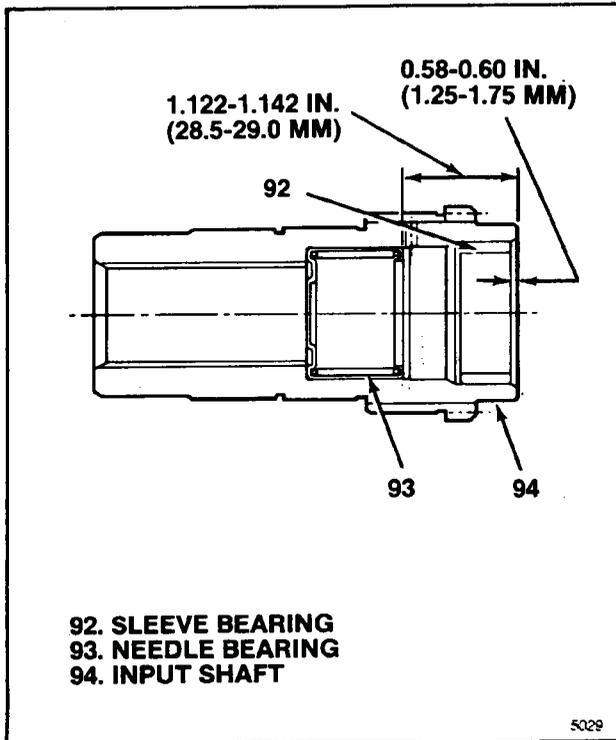

Figure 5-9. Input Shaft Assembly
a. Lay planet carrier assembly (100) on work bench with end having groove for snap ring (97) up.
b. Install sun gear (99) with hub end up. Rotate gears of planet carrier assembly (100) as required until sun gear is fully meshed.
c. Align tabs and install thrust plate (98) into planet carrier assembly (100)
d. Install retaining ring (97) to complete gear carrier assembly (96).
e. If removed, position needle bearing (93) as shown in figure 5-9 and press into input shaft (94) to dimension shown. Press in new sleeve bearing (92) to dimension shown in figure 5-9 to complete input shaft assembly (91).
f. Lift up gear carrier assembly (96) and install input shaft assembly (91) up through gear carrier assembly. Install thrust washer (95) and press bearing (90) over end of input shaft assembly. Retain bearing on input shaft with retaining ring (89) in shaft groove.